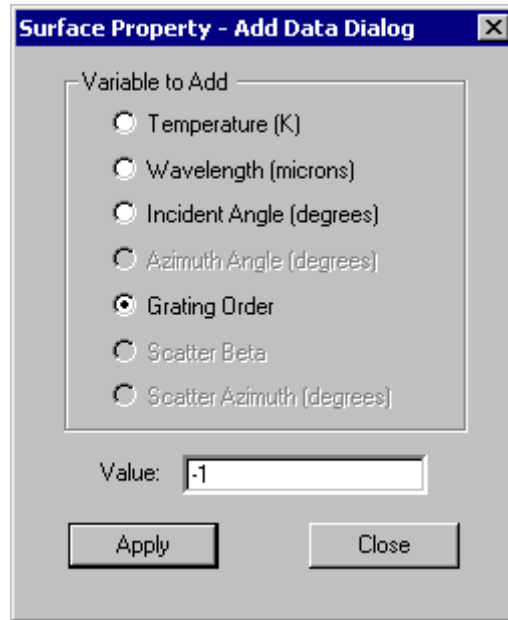

FIGURE 9.48 - Adding a grating order using the Add Data dialog box.
4. Enter the diffraction order and efficiency for both reflected and transmitted orders. You can add as many orders as you wish by typing in new orders in the *Add* dialog box and clicking *Apply* after each one as shown in Figure 9.48.